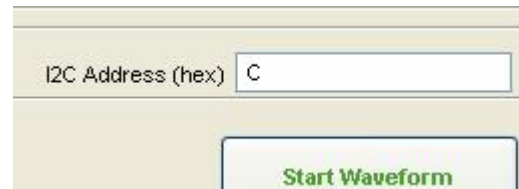

Figure 8: I²C Address
7. Configure the I²C address of the DAC. The DAC121C085 will respond to I²C address 0x0C by default with pins A0 and A1 floating (no jumpers on JP5). Change the I²C slave address of the DAC by adding jumpers to JP5. Refer to *Table 1* for a detailed description of the I²C address settings. The address in *Figure 8* must match the address configured by A0 and A1.